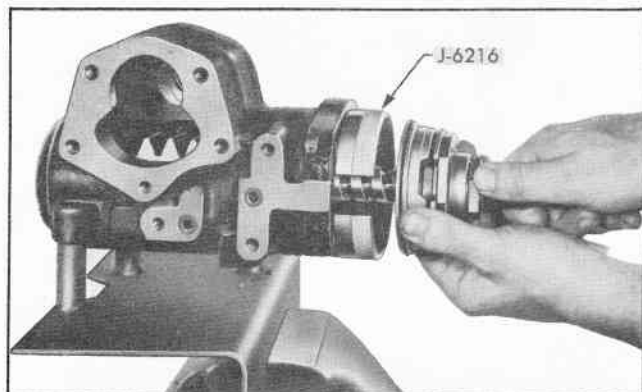

Fig. 81 Replacing Rack-Piston
1. Install ring compressor Tool J-6216 to compress piston rings and hold tightly against shoulder of housing and push rack-piston assembly into housing until piston rings are into cylinder bore (Fig. 81).